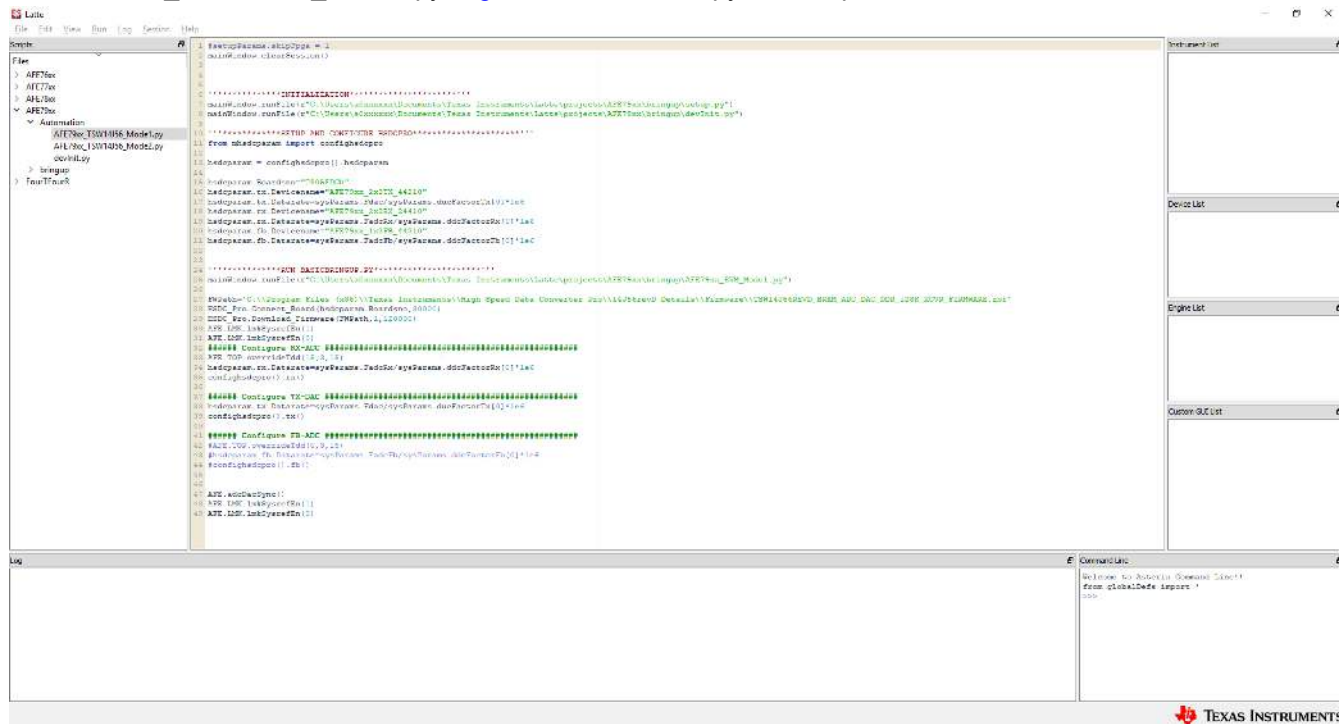

Figure 4-3. AFE79xx Mode 1 Automatic Configuration Script
- On the left hand side of the Latte, within the Scripts window, expand AFE79xx > Automation > AFE79xx_TSW14J56_Mode1.py. Figure 4-3 shows the python script.